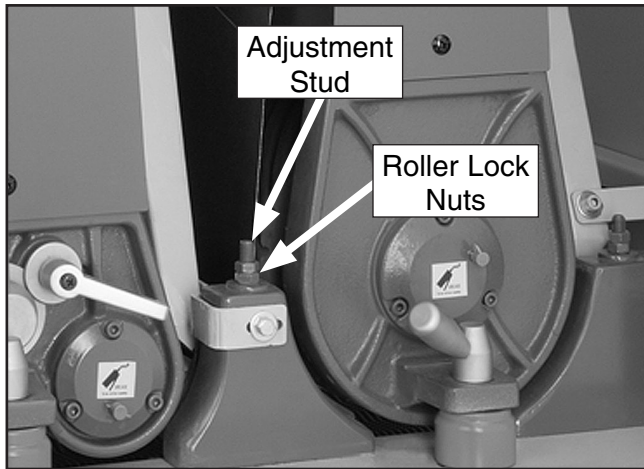

Figure 34. Pressure roller adjustment location.
- Loosen the infeed pressure roller lock nuts (**Figure 34**) on the infeed pressure roller. Turn the adjustment studs (**Figure 34**) to lower the infeed pressure roller until it just touches the board.